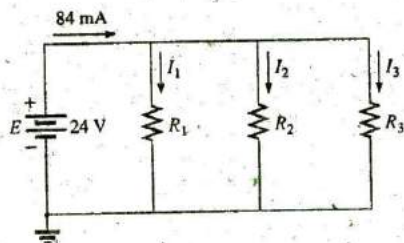

FIG. 6.105
36. Design the network in Fig. 6.105 such that $I_2 = 2I_1$ and $I_3 = 2I_2$.